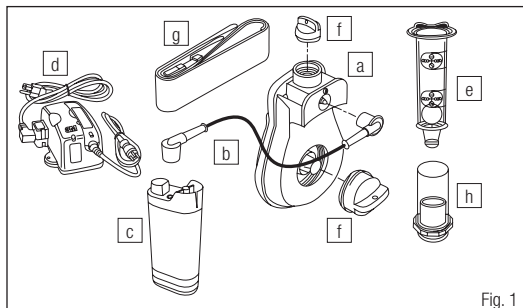

Fig. 1
5. Connect the power cord to the battery and the PAPR unit as demonstrated in Figs 1 and 2.
6. Connect the power cord between the battery and motor/blower unit (Fig. 1 and 2).